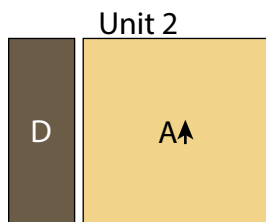

Fig. 4
2. Sew (1) $3\frac{1}{2}$ " x 9" Fabric D strip to the left side of (1) 9" Fabric A square to make (1) Unit 2 strip (Fig. 4).